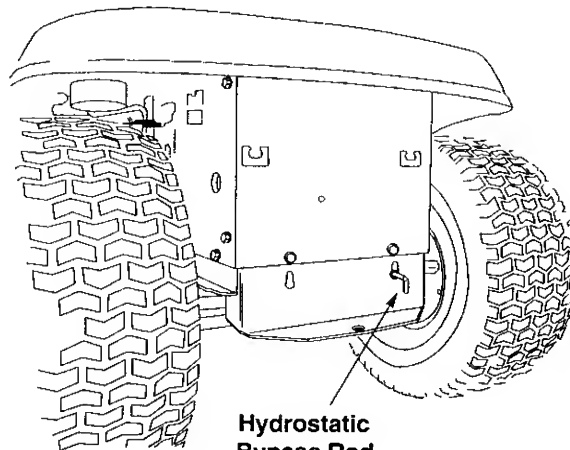

Figure 8
- Locate the hydrostatic bypass rod in the rear of the tractor. See Figure 8.